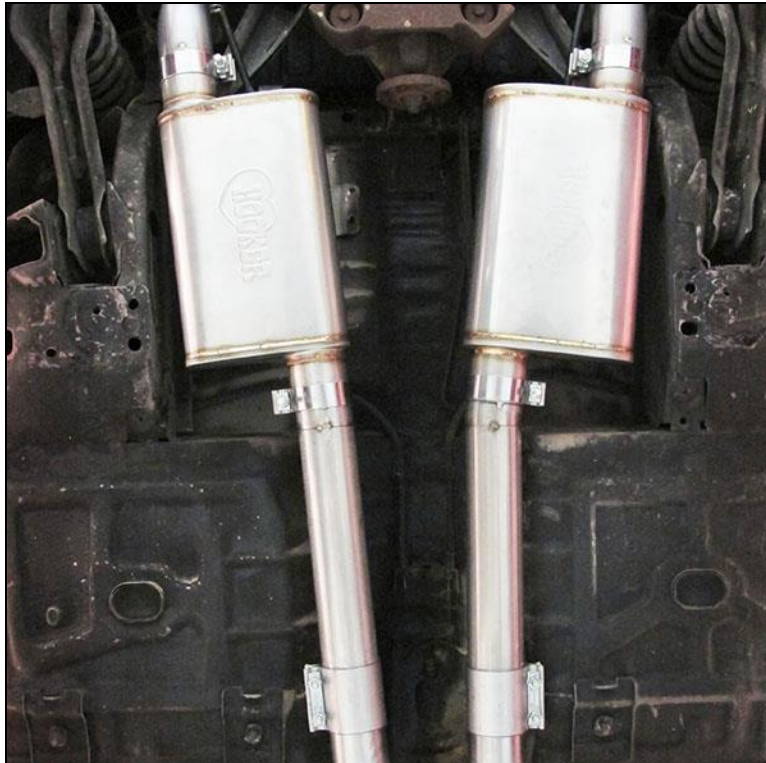

Figure 2
8. Place (x1) supplied double-ended coupler clamp over each muffler inlet tube and lift up the front of the connected muffler tube/muffler/over-axle tube assemblies to allow them to be connected to the outlets of the X-pipe assembly previously installed. Carefully position the coupler clamps so that the ends of the tubes inside them are centered along the length of the couplers. Refer to **Figure 2** on the following page as a photo reference for this step.